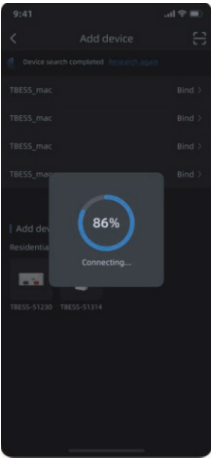

Figure 3
- 3)Figure 3: Bluetooth is **"Connecting"** and waiting for feedback on the connection result.